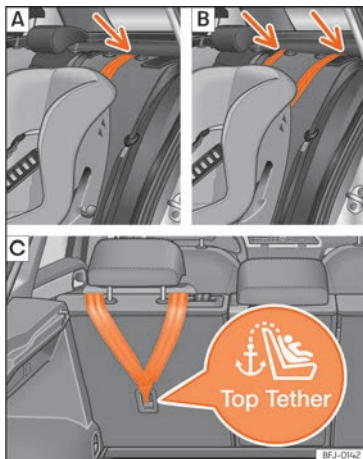
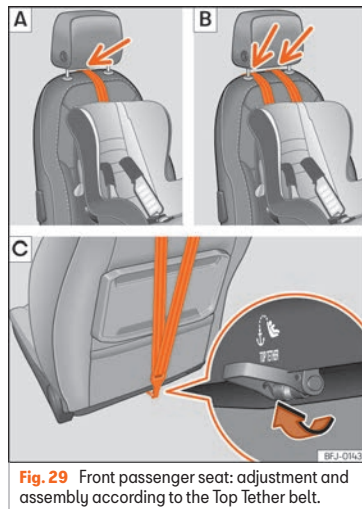

Fig. 28 Side seats of the second row: adjustment and assembly according to the Top Tether belt.
Fig. 29 Front passenger seat: adjustment and assembly according to the Top Tether belt.
»» Fig. 28. For the front passenger seat, the ring is below the backrest »» Fig. 29.
- Position the belt under the headrest (depending on the instructions of the seat itself, lift or remove the headrest if necessary) »» Fig. 28 [A/B], »» Fig. 29 [A/B].
- Slide the strap and secure it properly with the anchorage of the backrest »» Fig. 28 [C], »» Fig. 29 [C].